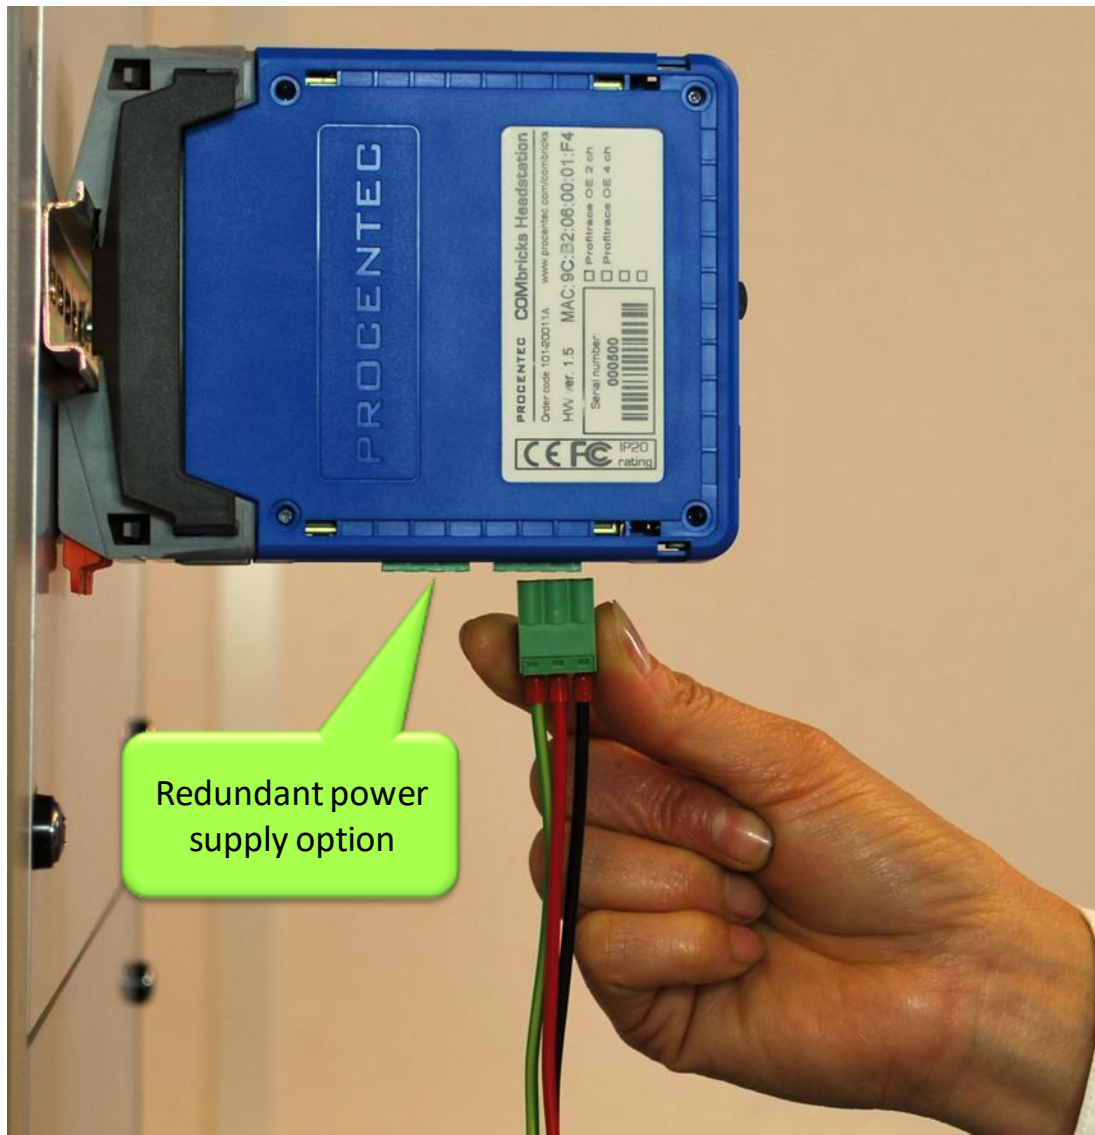

Fig. 23 - Head Station power supply
STEP 3: Insert the entire connector block in the power socket (see **Fig. 23**).